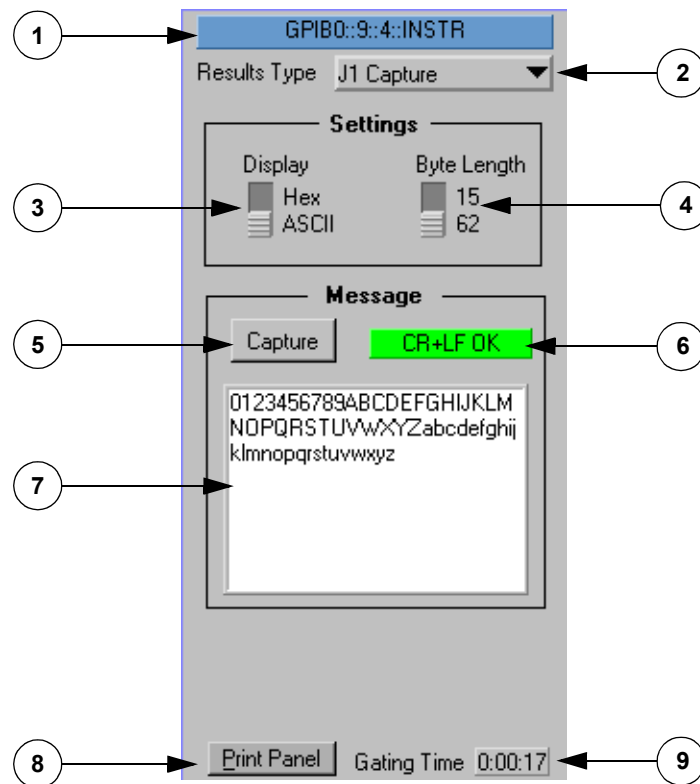

Figure 3-30. J1 Capture Results
- J1 Capture, see Figure 3-30.